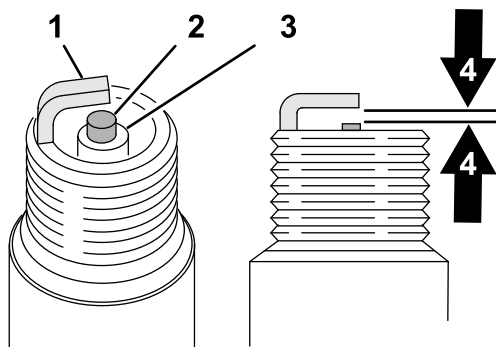

Figure 83
2. Adjust the air gap (Figure 83) between the center electrode and side electrode to 0.76 mm (0.030 inch).